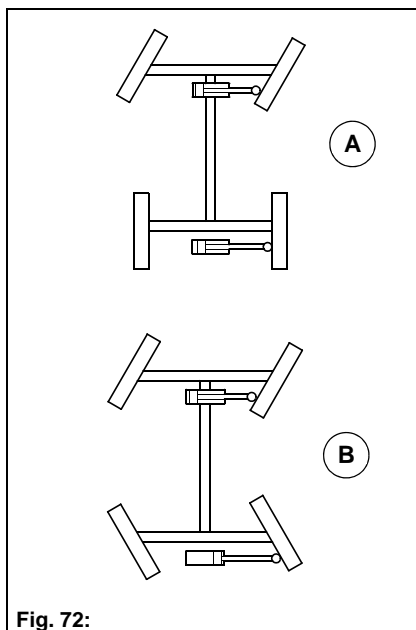

Fig. 72:
- Front wheel steering **Fig. 72-A**
- Four-wheel steering **Fig. 72-B**